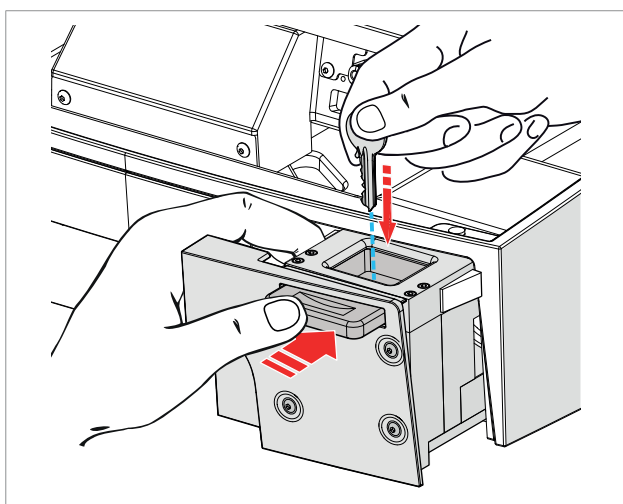

Fig. 77
- 3) Use the other hand to insert the key to be read (Fig. 77).